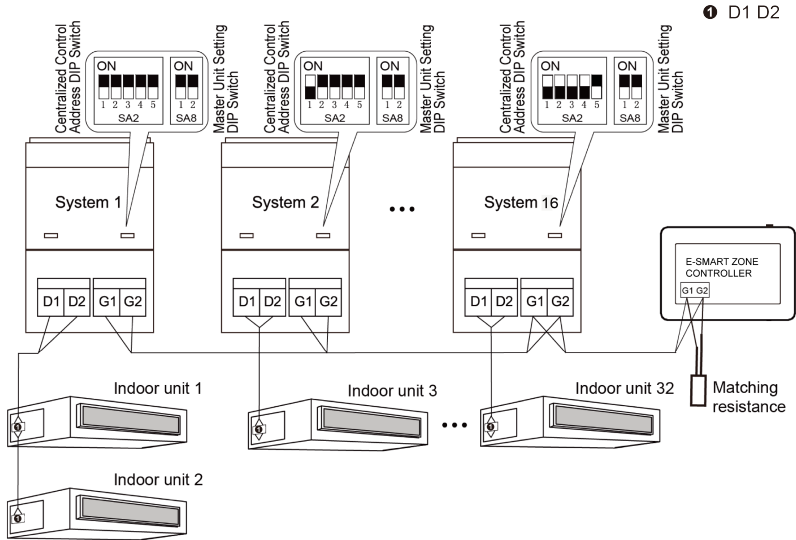
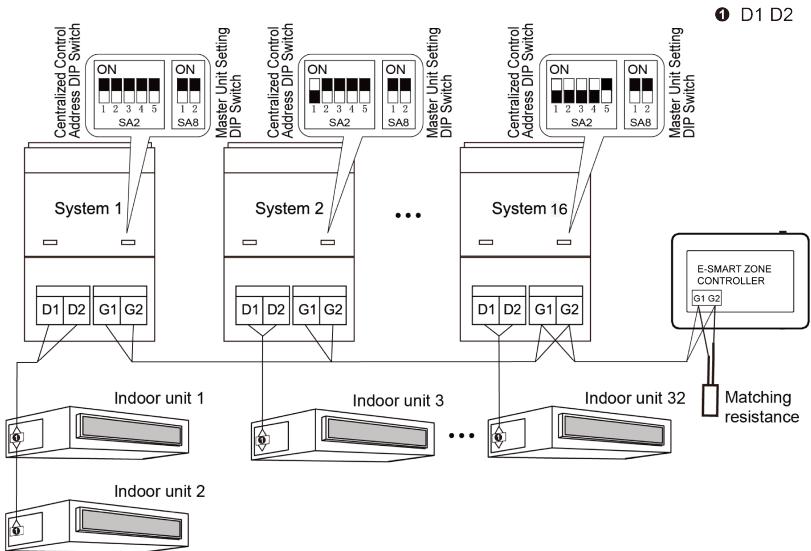

Fig.3.5 Centralized Controller Connected with ODU Network
Fig. 3.6 Centralized Controller Connected with Heat Recovery Mode Converter Network
- (3) If the centralized controller is to be connected with the ODU network, connect according to Fig.3.5. The centralized controller can only be connected with the terminal system of the ODU network. A matching resistance needs to be added with the communication cords at the G1 and G2 ports.
- (4) The centralized control address DIP switch (SA2\_Addr-CC) indicates the centralized control address required when different refrigerating systems are controlled in a centralized manner. The default factory setting is "00000".
- (5) If the centralized controller is to be connected with the heat recovery network, connect according to Fig. 3.6. The method 2 is also applicable to centralized controller connected with the heat recovery network.